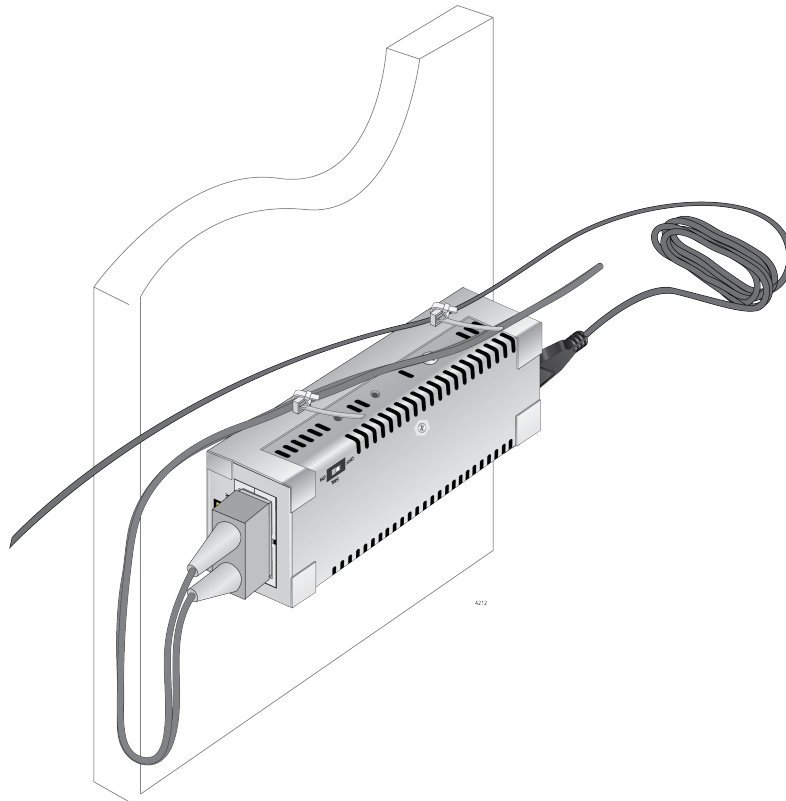

Figure 36. Securing the Fiber Optic Cable Tie
7. Secure the fiber optic cable to the media converter using the other cable tie as described below and shown in Figure 36: